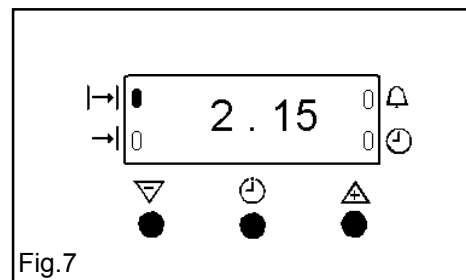

Fig.7
- iii) To set the length of cooking time. Press the Selector Control button until the 'Cook Time' indicator neon is illuminated. Press the increase control (+) until the required length of cooking time is displayed, e.g. 2 hrs 15 mins as Fig. 7. If necessary depress the decrease control (-) until the correct time interval is achieved.